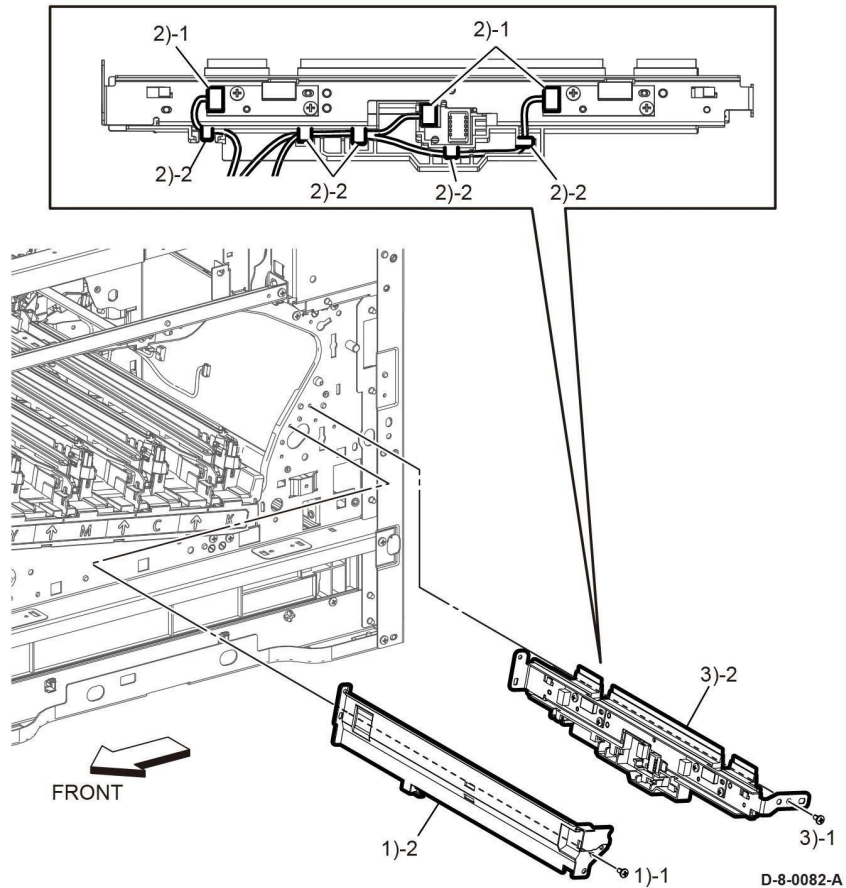

Figure 1 Remove the CTD Sensor Assembly
2. Refer to Figure 1 to remove the one screw (silver, M3x6mm) attaching the Sensor Cover and remove the cover.
4. Refer to Figure 1 to remove the one screw (silver, M3x6mm) attaching the CTD Sensor Assembly, and remove the sensor.
3. Refer to Figure 1 to unplug the three sensor connectors (P/J142, P/J143, P/J145) and release the cable.